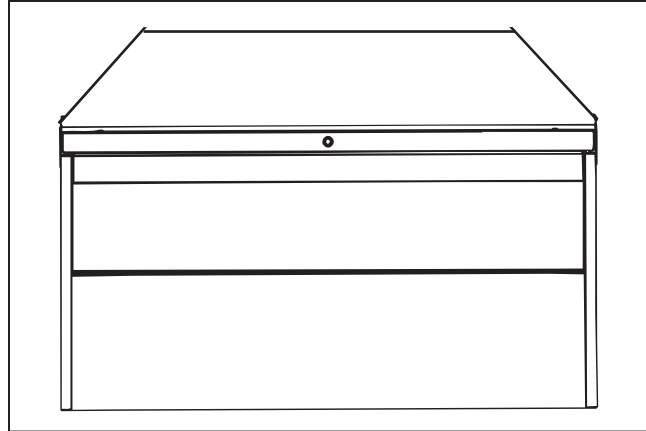

Figure 1. Enclosure for pad-mounted style.
- STEP 1.** Remove and retain the anchor brackets tie wrapped to the enclosure or tank grounding pad. Use 6-foot (1829-mm) or longer hoist slings of equal length to prevent damage to the enclosure or tank during lifting. (Four-foot (1219-mm) hoist slings are acceptable for two-way and three-way enclosures and tanks.) See Figures 1 through 3.